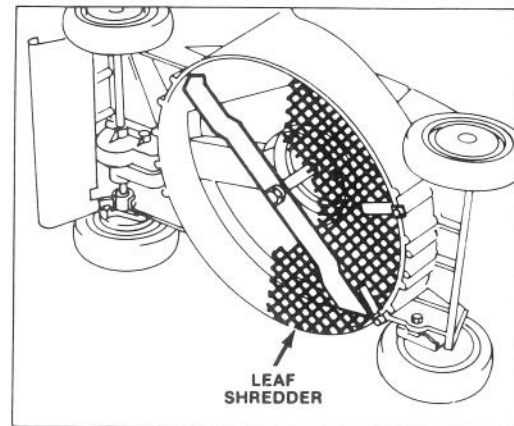

Figure 6
**SHRED LEAVES** — In fall, optional leaf shredder (Fig. 6) reduces leaves to a fraction of their original size while you bag. Minimizes emptying stops and number of trash bags used for disposal.